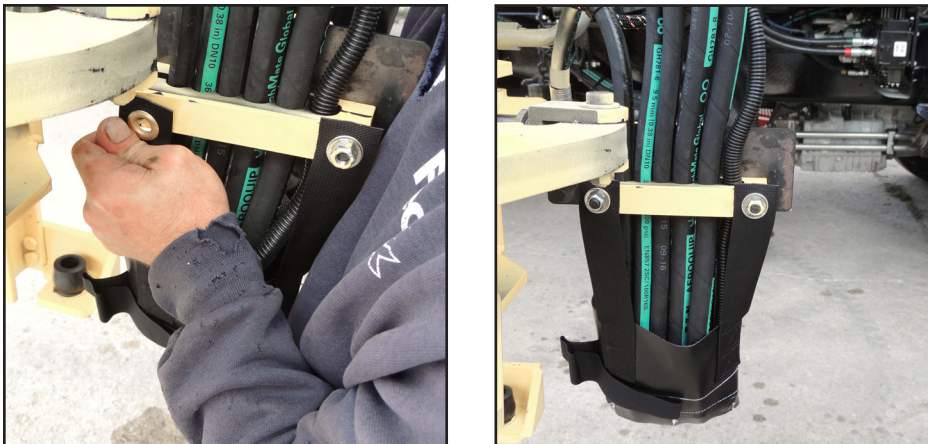

Figure 18
35. Pull the hose sleeve tails up to the hose clamps and, using 9/16" socket wrench, reinstall the existing washers and nuts (Figure 18). Use a torque wrench to torque to 28 ft-lbs.